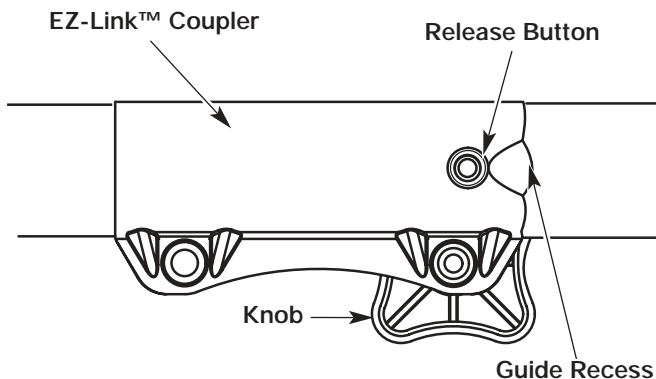

Fig. 11
1. Turn the knob counterclockwise to loosen (Fig. 11).
2. Press and hold the release button (Fig. 11).
1. Turn knob counterclockwise to loosen (Fig. 11).
NOTE: Aligning the release button with the guide recess will help installation (Fig. 11).
3. Turn the knob clockwise to tighten (Fig. 11).